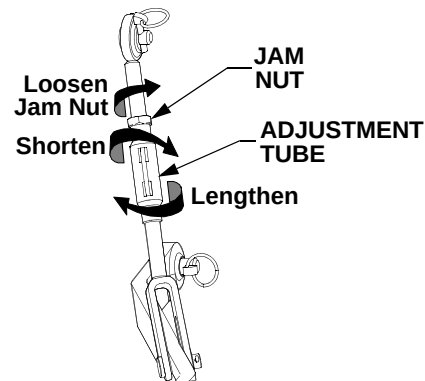

Figure 23
- Adjust the RH adjustable lift link to *level* the lower hitch links. Loosen the jam nut and turn the adjustment tube as shown in Figure 23 to shorten or lengthen the lift link. Tighten the jam nut against the adjustment tube after adjusting.